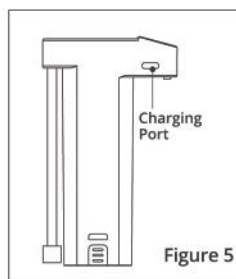

Figure 5
- The power indicator on the display screen of the system flashes red to signal low battery, and charge the system by using a 5V=2A adapter and inserting a USB Type-C Cable into a side charging port of the water pumping unit. (Figure 5)